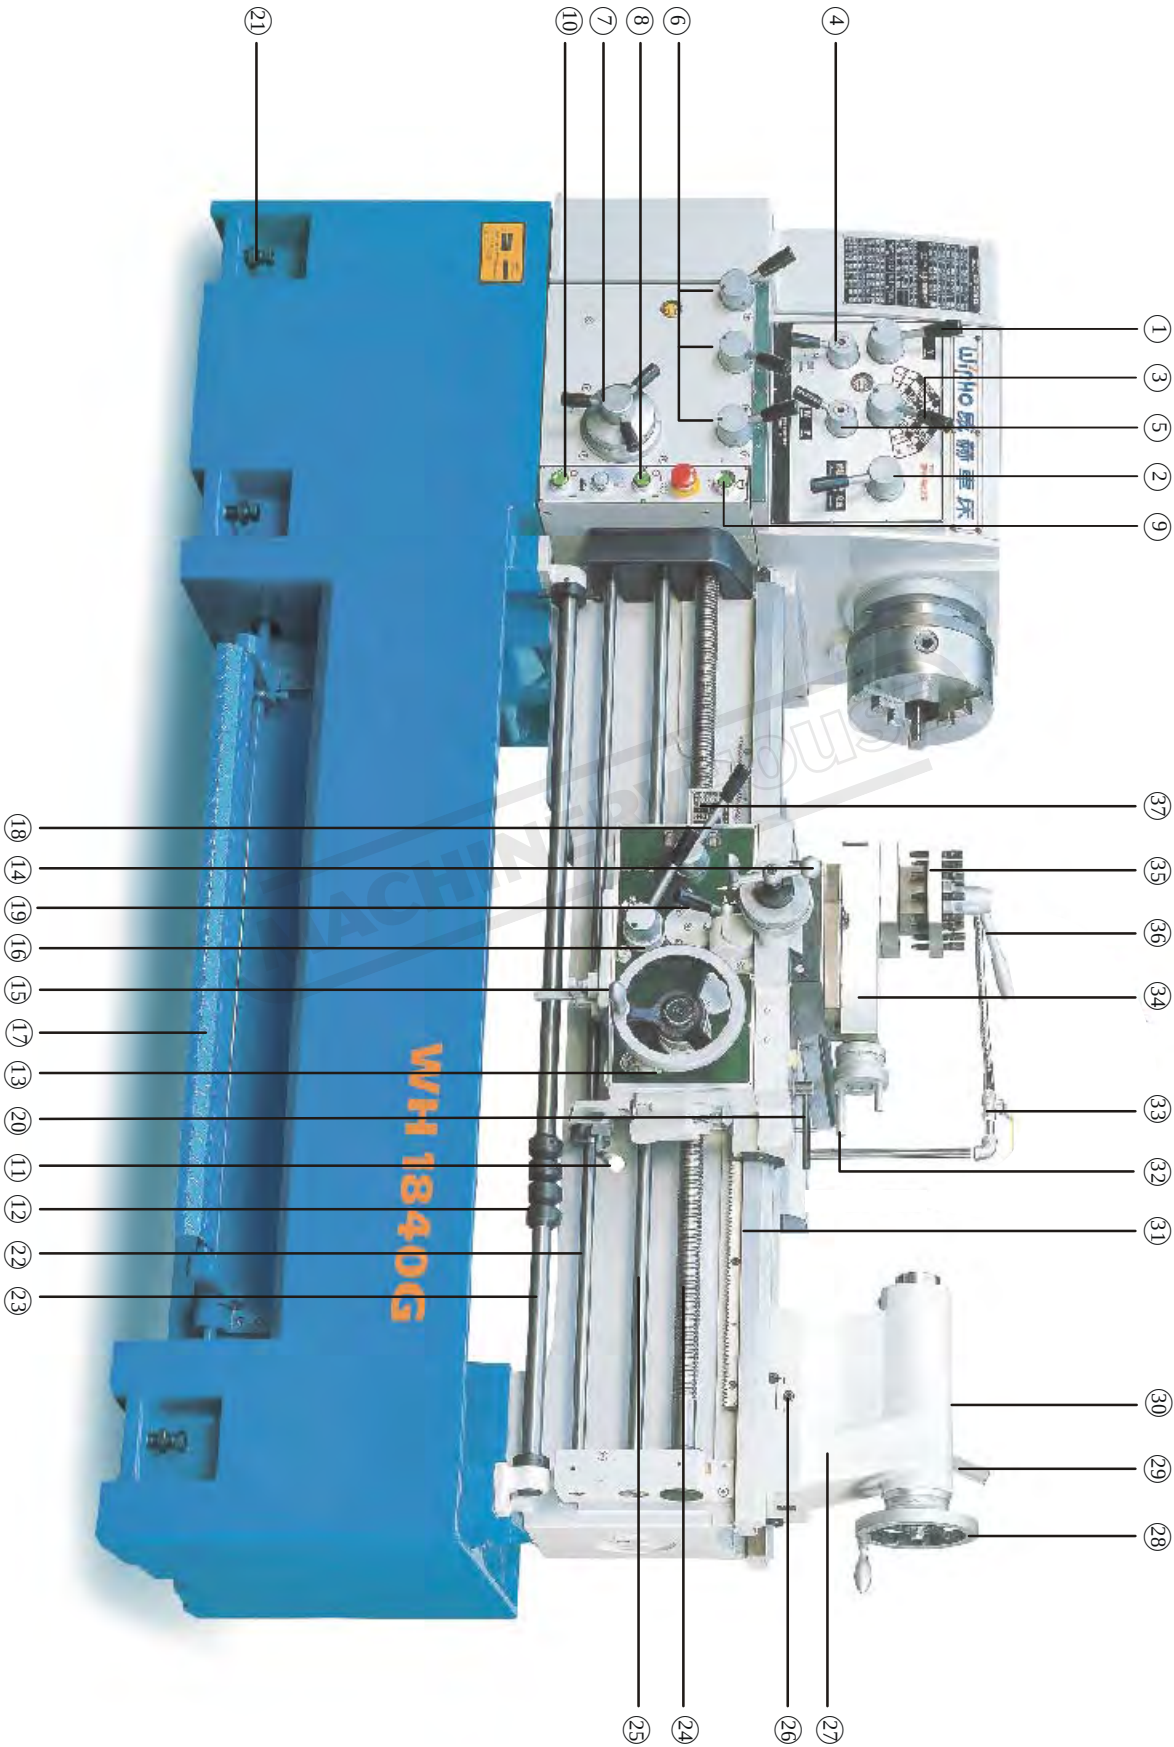

Fig. 1-1
Position the spindle speed H/L shifting lever ② to “L”, the spindle speed shifting selection lever ③ to the very left side, and forward/reverse shifting lever ④ to “N” position. Lift the spindle operation control lever (⑪ of figure 1-1), the spindle will rotate forward, press down the lever, the spindle will rotate reverse; in ‘Neutral’ position, the spindle will stop. For normal forward & reverse revolution, always operate the spindle operation control lever. For emergency stop, step on the foot brake, the spindle operation control lever should push back to ‘Neutral’ position after stepping the foot brake. Afterward, start the spindle.
Turn the coolant supply button (⑩ of figure 1-1). Adjust the adjusting valve for the required coolant flow.
Open the end cover to find the gear train transmitting from headstock to gear box, position the forward/reverse shifting lever (④ of figure 1-1) to right side, the spindle will rotate forward; to right; reverse; to Neutral, stop. Do not change the gears while turning.
With the special design, there is no need to re-arrange the back gears for threading. Please refer to the 'threading & feeding table' and handle the thread/feed selection lever (⑤ of figure 1-1), thread, feed shifting lever (⑥ of figure 1-1) and 10-step feed selection dial (⑦ of figure 1-1) accordingly.